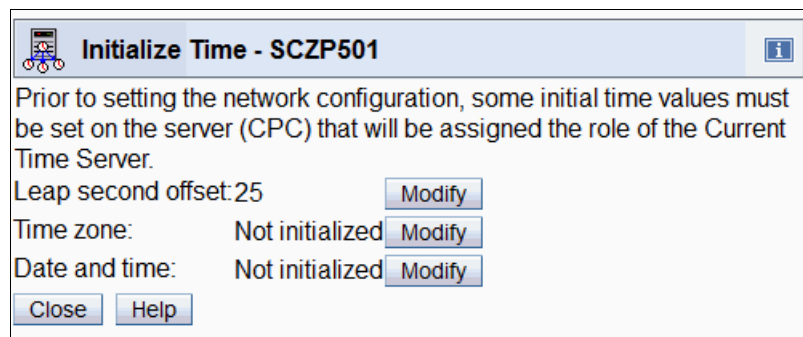

Figure 9-42 System (Sysplex) Time: Modify Time zone
- a. Click **Modify**, next to Time zone (Figure 9-42).